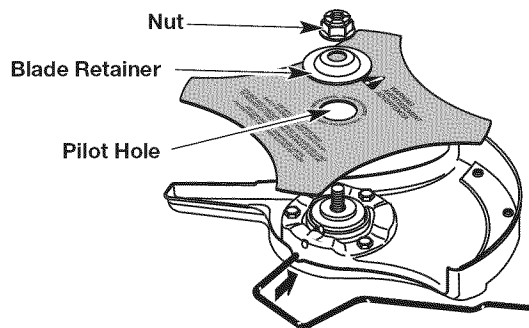

Fig. 15
1. Place the cutting blade on the output shaft bushing (Fig. 15).